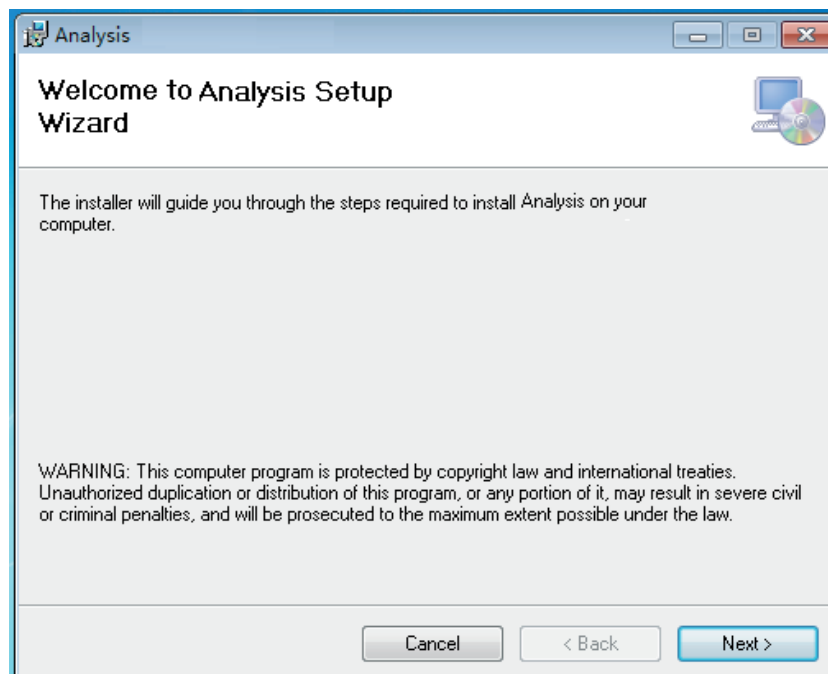

Figure 2-18
4. Go to the main program installation interface successfully. See Figure 2-18: